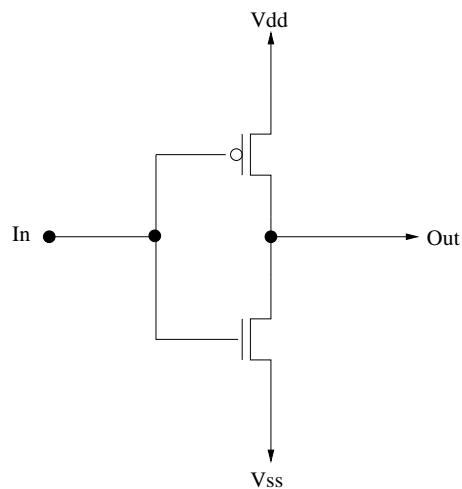

Figure 1: transistors diagram of a C-MOS inverter
- draw the inverter "stick-diagram" **inv_x1** whose transistors diagram is represented on the figure 1.